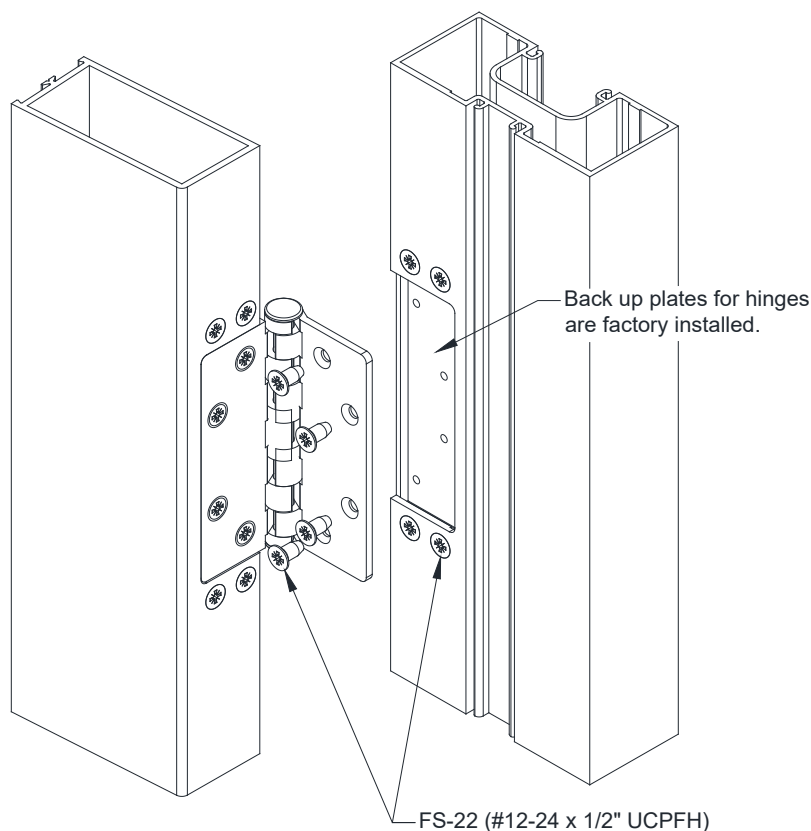

Figure 49: Hanging Door with Butt Hinges
- 15.3 Attach hinges to the back-up plates in frame using FS-22 (#12-24 x 1/2" UCPFH), as shown in Figure 49.
18.3.3.4 Slide **D-120** sweep into slot of **D-118** and stake at both ends to secure. Reference Figure 49.